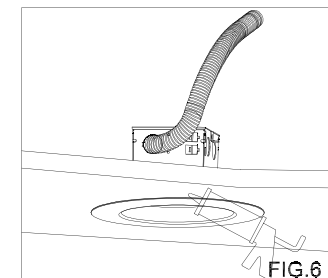

FIG.6
- Push the Housing Assembly with the top side of the Remodel Clips through the hole until tight. Continue to push the Housing Assembly until the fixture snaps into place with the trim tight against the ceiling. (FIG6)